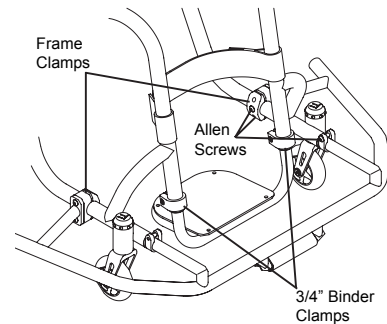

Figure 133
- Loosen the two Allen Screws on each frame clamp. See Figure 133.